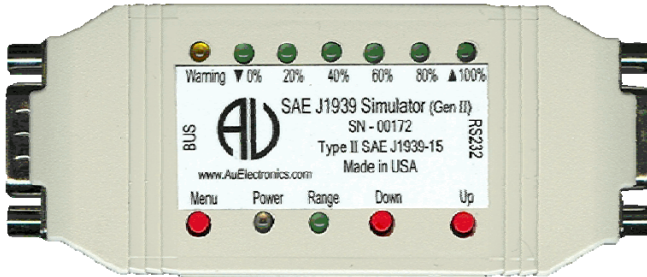
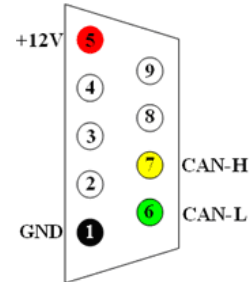

Figure 1-1 Au J1939 Simulator (Gen II)
Figure 1-2 BUS Side DB9 male connector
Au SAE J1939 Simulator (Gen II) 2.00A (Figure 1-1), a family of well designed devices, are capable of simulating majority of SAE J1939 signals on a vehicle network. They can be connected to vehicle network at the 9 pin "BUS" connector. The pinout of the DB9 male "BUS" interface is illustrated in Figure 1-2.
- **1 DB9 Male "BUS" Interface** (Figure 1-2):